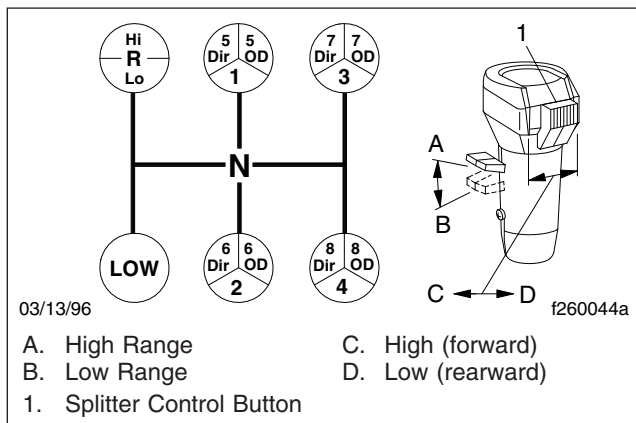

Fig. 14.1, Eaton Fuller 13-Speed Transmission Shift Pattern
Eaton Fuller 13-speed transmissions have thirteen forward speeds and two reverse speeds. Each transmission consists of a 5-speed front section and a 3-speed auxiliary section. The auxiliary section contains low- and high-range ratios, plus a splitter gear. See Fig. 14.1 for the shift pattern.
3. Make sure the splitter-control button is in the low (rearward) position. See Fig. 14.1.